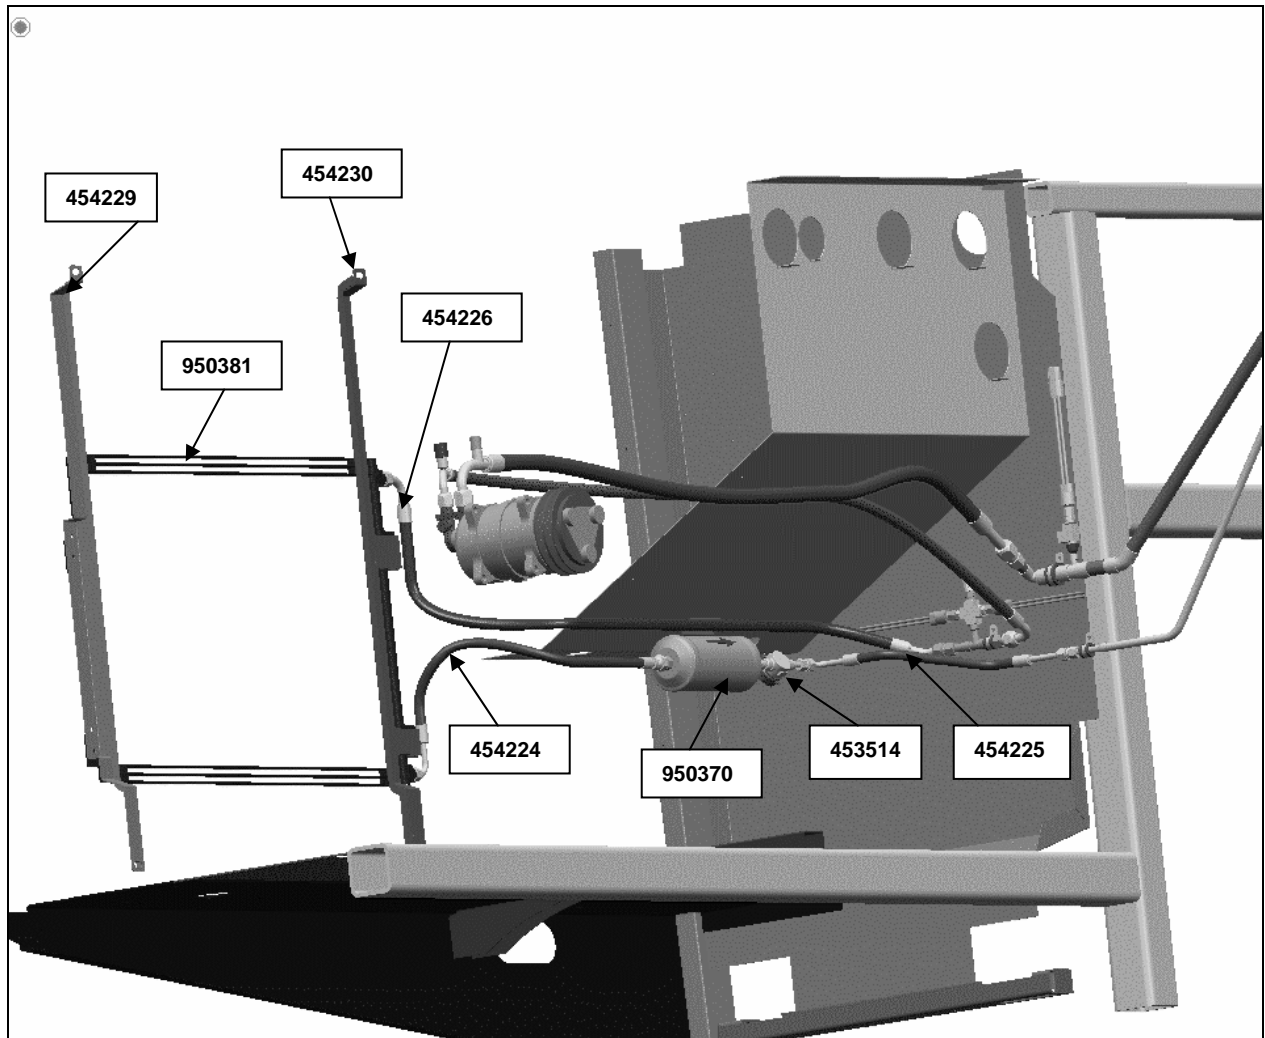

FIGURE 14
**(Refer to figures 14, 15, 16 and 17 for more information on installation)**